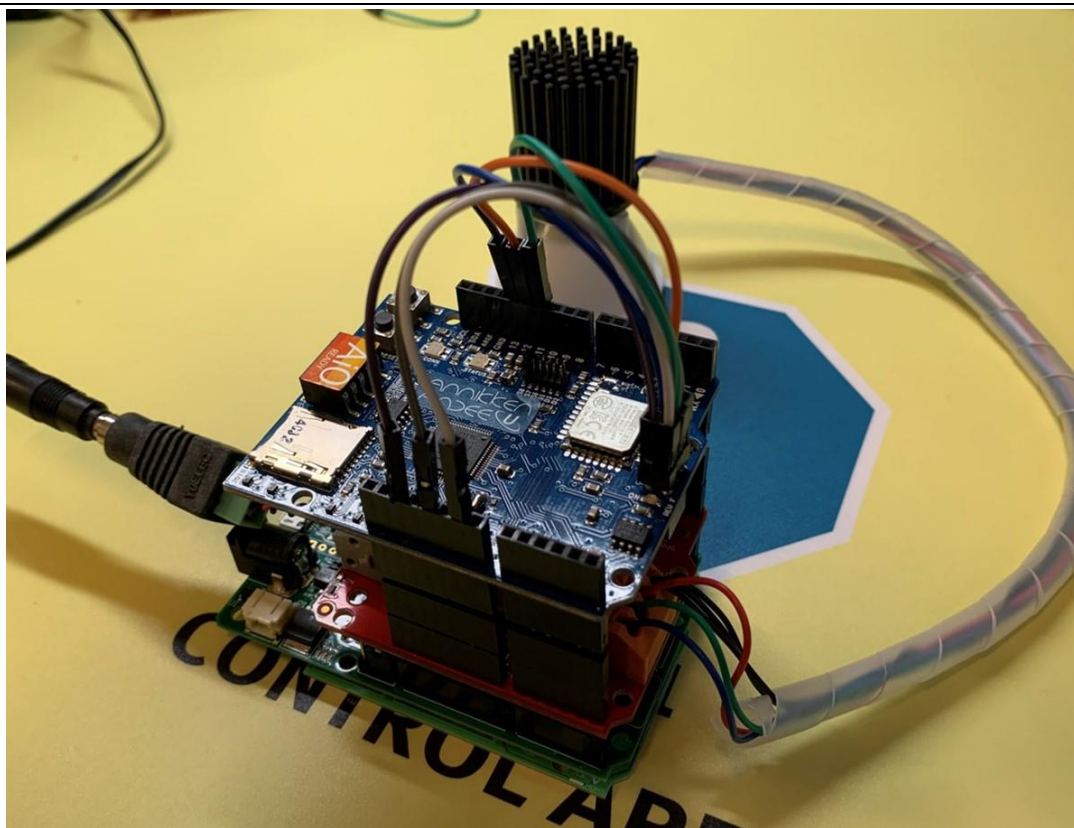
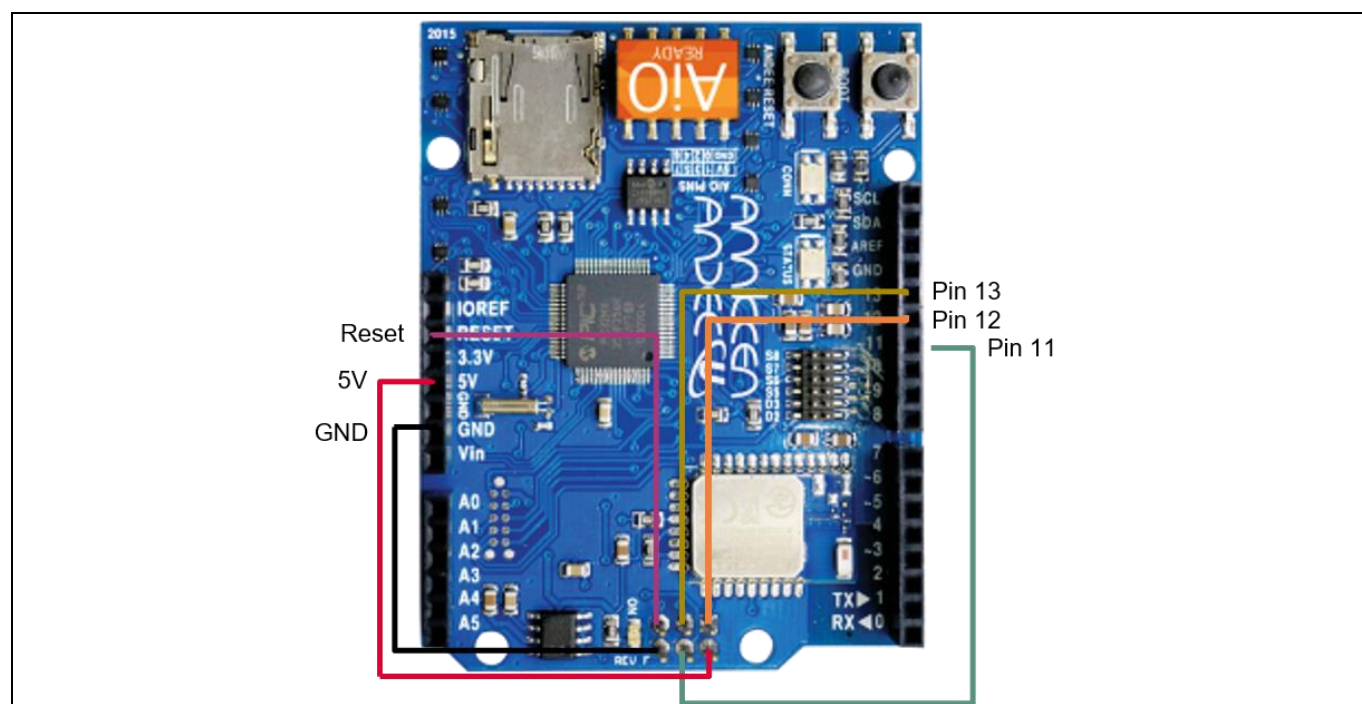

Figure 28 Stacking the Annikken Andee U shield onto the set-up
Figure 29 Jumper wire connections on the Andee U
12. Stack the Annikken Andee U shield onto the set-up (Figure 28). Notice that there are several jumper wires on the Annikken Andee U board. This is due to the hardware modifications required on the radar baseboard regarding the ISCP header, as mentioned in section 2.3. Figure 29 illustrates the required connections.